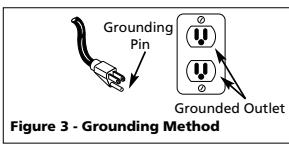

Figure 3 - Grounding Method
- This product is for use on a nominal 120 volt circuit and has a grounding plug that looks like the plug illustrated in Fig. 3. Make sure the product is connected to an outlet having the same configuration as the plug. This product must be grounded. In the event of an electrical short circuit, grounding reduces risk of electrical shock by providing an escape wire for electric current. This product is equipped with a cord having a grounding wire with an appropriate grounding plug. Plug must be plugged into an outlet that is properly installed and grounded in accordance with all local codes and ordinances.